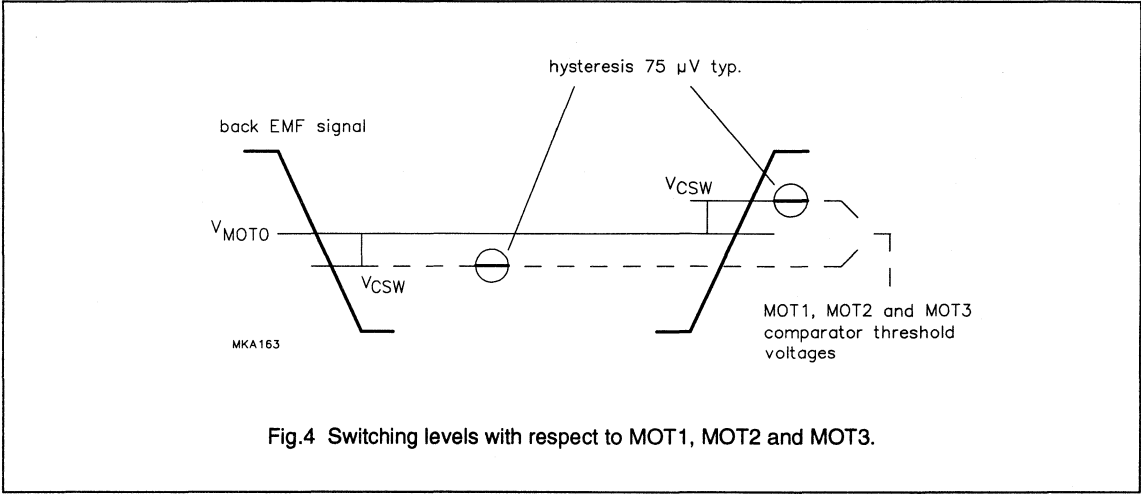

Fig.4 Switching levels with respect to MOT1, MOT2 and MOT3.
3. Switching levels with respect to MOT1, MOT2 and MOT3; see also Fig.4.